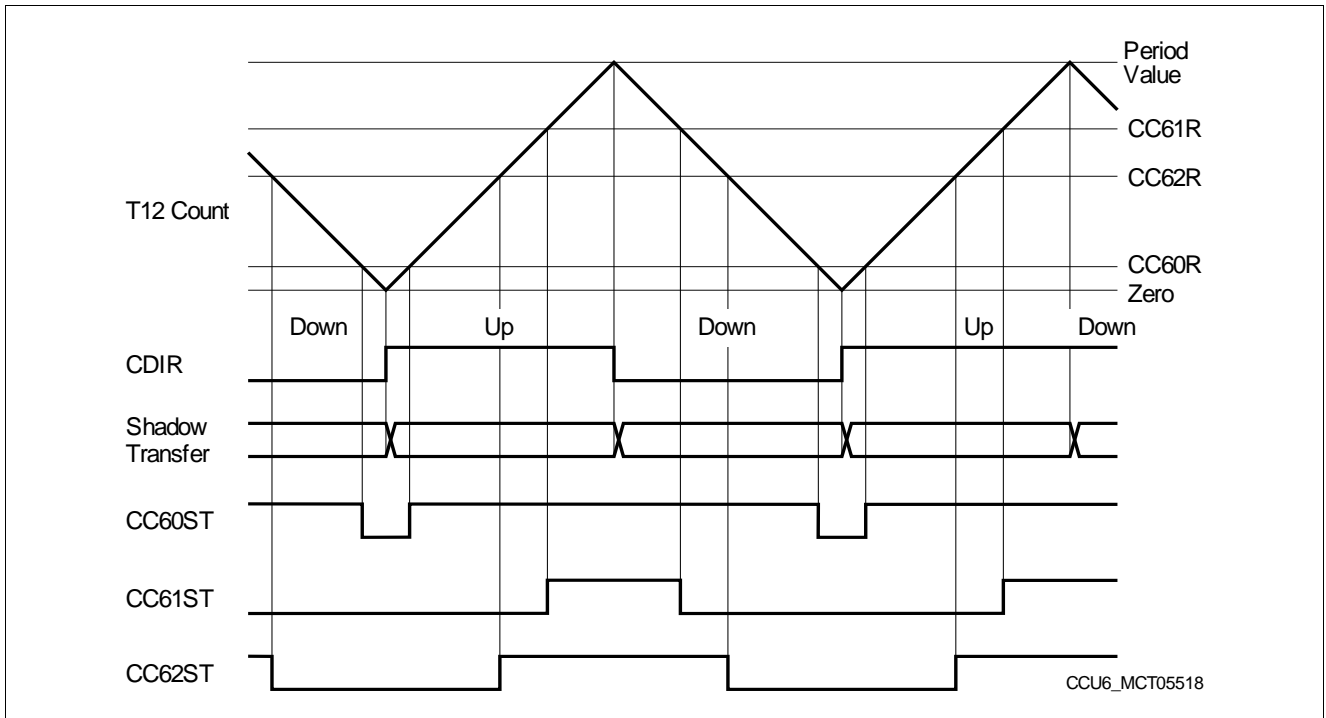

Figure 134 Three-Channel Compare Waveforms
**Figure 134** illustrates an example for the waveforms of all three channels. With the appropriate dead-time control and output modulation, a very efficient 3-phase PWM signal can be generated.